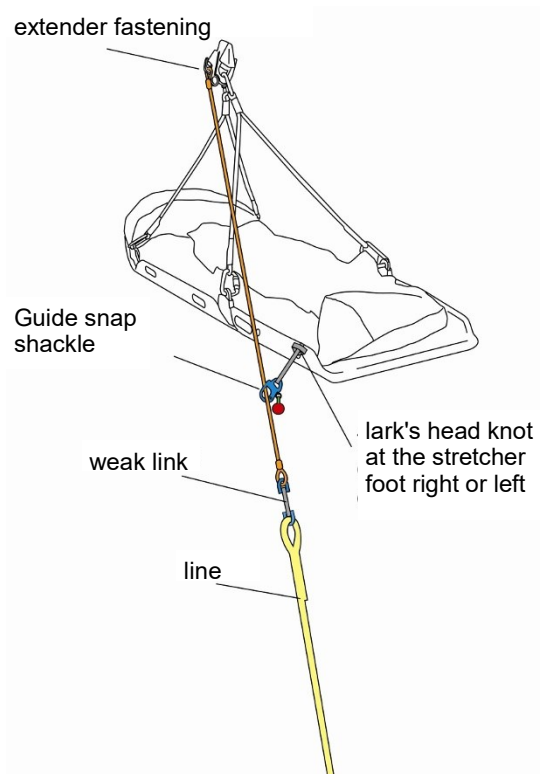

Figure 17
10.4 Fastening the stretcher in the marine version (Figure 17)